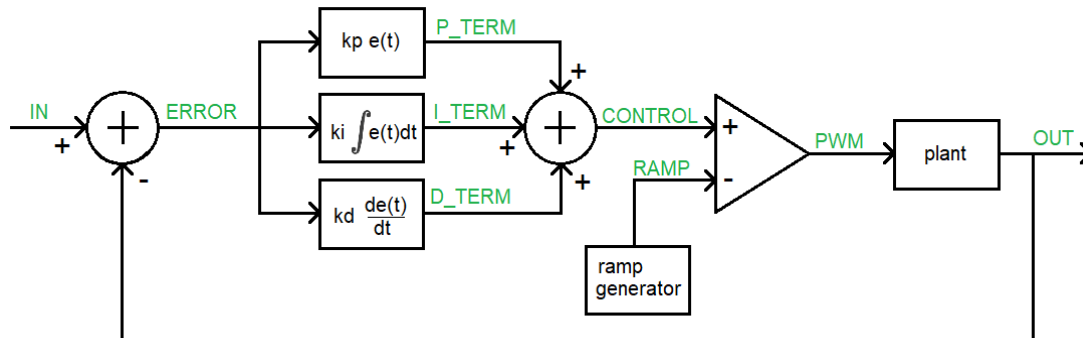

Figure 1: High-level architecture of the PID Controller board.
- a. What opamp and resistors form the summer junction that outputs **ERROR** Figure 1?
- a. What opamp/resistors in the form the first stage of the **P_TERM** in Figure 1?
- c. What opamp/resistors form the second stage of the **P_TERM** in Figure 1?
- a. What opamp/resistors in the form the first stage of the **I_TERM** in Figure 1?
- c. What opamp/resistors form the second stage of the **I_TERM** in Figure 1?
- a. What opamp/resistors in the form the first stage of the **D_TERM** in Figure 1?
- c. What opamp/resistors form the second stage of the **D_TERM** in Figure 1?
- a. What opamp and resistors form the summer junction that outputs CONTROL in Figure 1?
- a. Given RAMP (in red) and CONTROL (in blue) shown in the following timing diagrams, draw the output PWM signal using the open-loop opamp configuration shown in Figure 1.